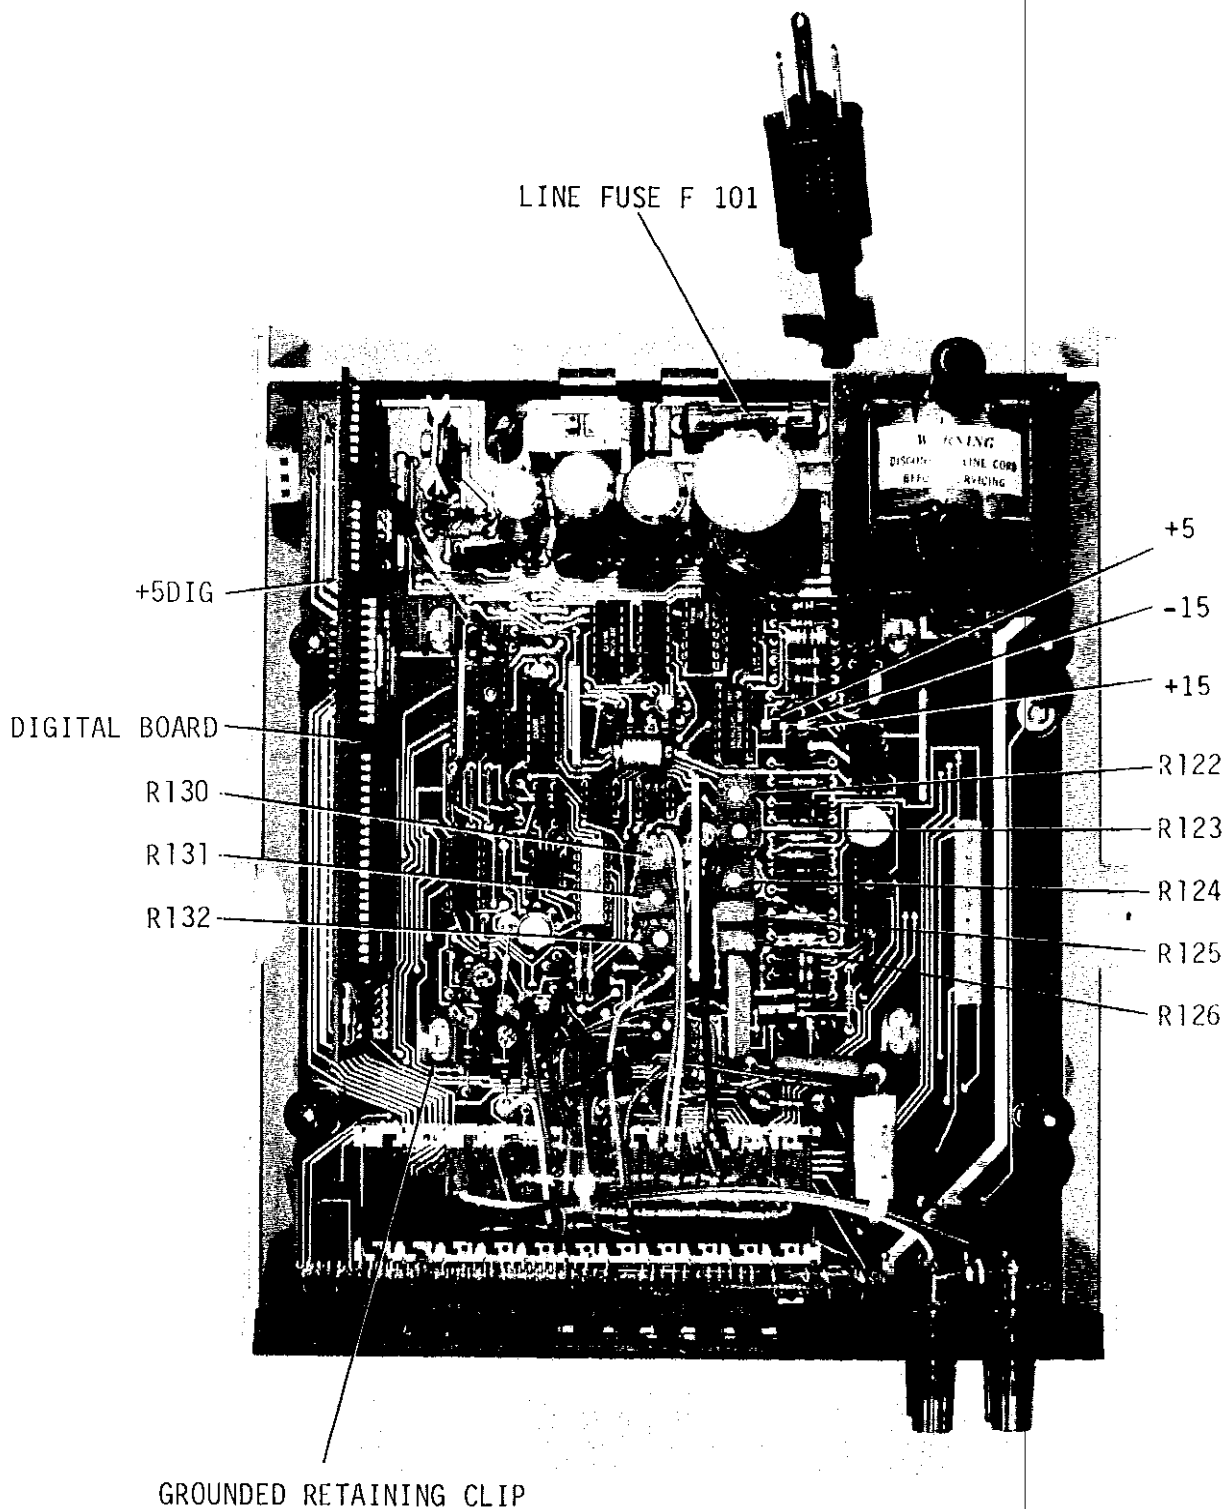

FIGURE 6-2. Model 191 (Shield Removed)
b. Remove mother board shield by carefully lifting shield from the retaining clips. To reinstall, position shield on the four retaining clips so that the small bent tab on side of shield is positioned against the grounded retaining clip (See Figure 6-2). This tab prevents the shield from moving too far towards the rear of the mother board. Press firmly on top of shield to engage fully into retaining clips.
** Refer To Figures 6-2 and 6-3 for location of Adjustment Points.
<p>* On main printed circuit board (see Figure 6-2). **On optional line voltage units set to 115V.</p>